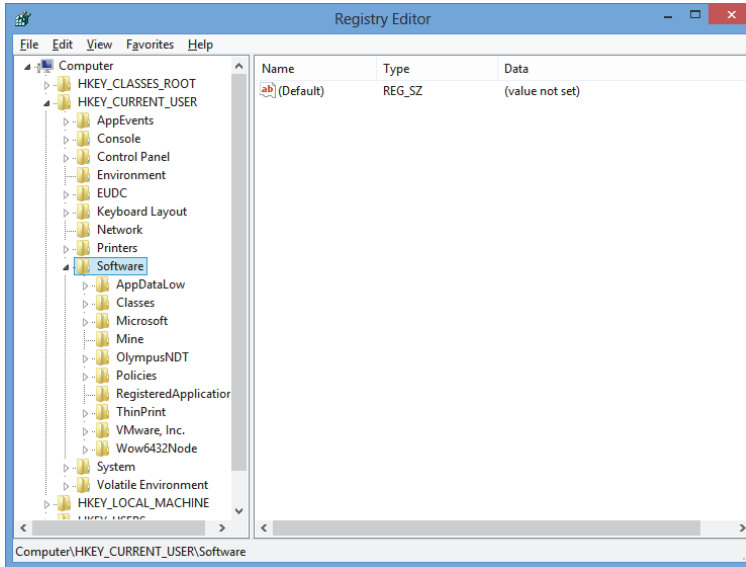

Figure 2-23 The Registry Editor window
2. In the **Registry Editor** window (see Figure 2-23 on page 48), proceed as follows: